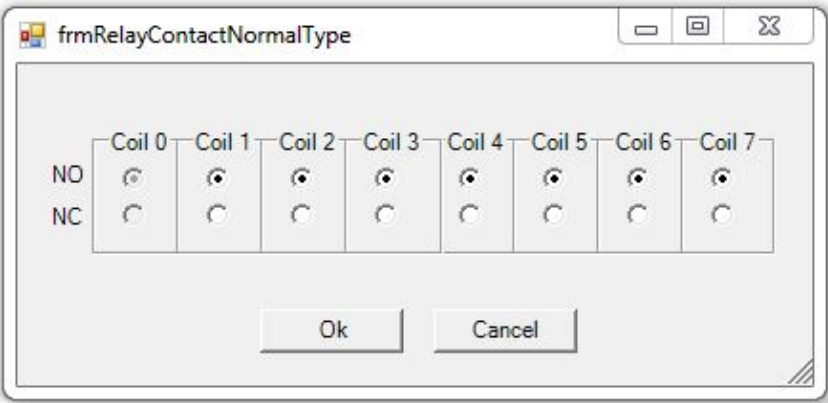

Figure 51: Relay Contact Type
The *Relay Contact Type* form (Figure 51) will be displayed. From this screen, each of the seven relays available on the module can be configured for normally open (NO) or normally closed (NC) operation. By default, all relays will be set to normally open.